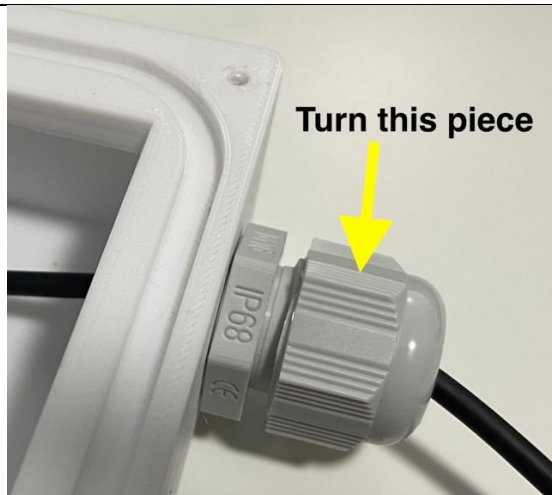

Figure 58: Tighten the cable gland by turning this piece.
4. Tighten the cable gland by turning the outside piece shown in Figure 58.